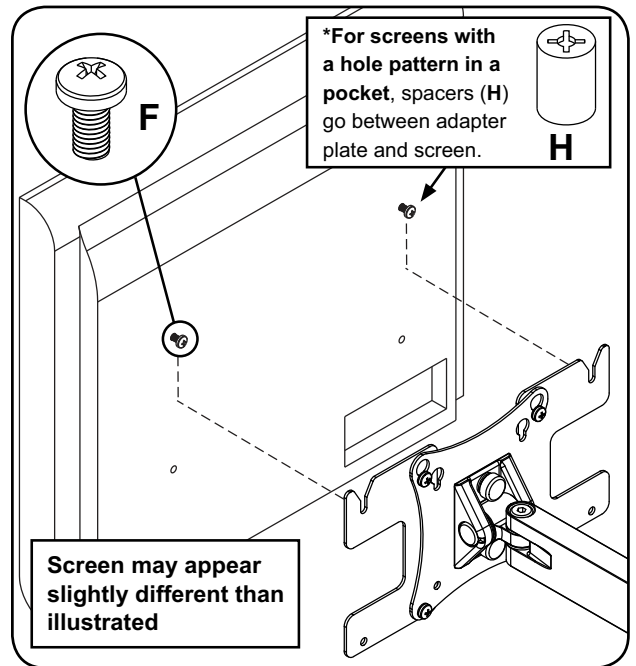

fig. 5.1
5 Insert two M4 x 12 mm screws (F) into top two holes of screen, leaving approximately 1/4" (6.3 mm) of exposed thread. Hook screws onto slots of adapter plates (J) as shown in figure 5.1